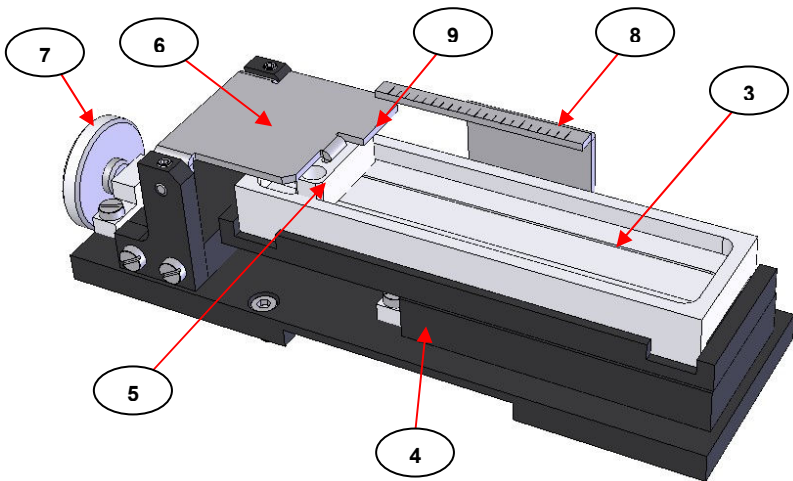
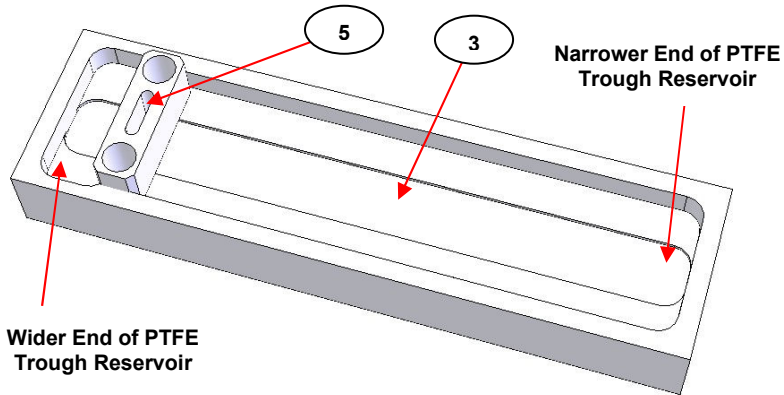

Fig 3. PTFE Trough and Liquid Sampling Platform Assembly
Fig 4. PTFE Trough and Tensioning Bar
The liquid sampling platform assembly (4) consists of the following parts as shown in Figs 3, 4, and 5..
Fig 3. shows that the PTFE trough (3) rests in a recess on top of the main liquid sampling platform assembly (4) and is positioned correctly when the “wider” end of the trough (3) reservoir is near to the tensioning bar (5) adjustment mechanism. (See Fig 4.).